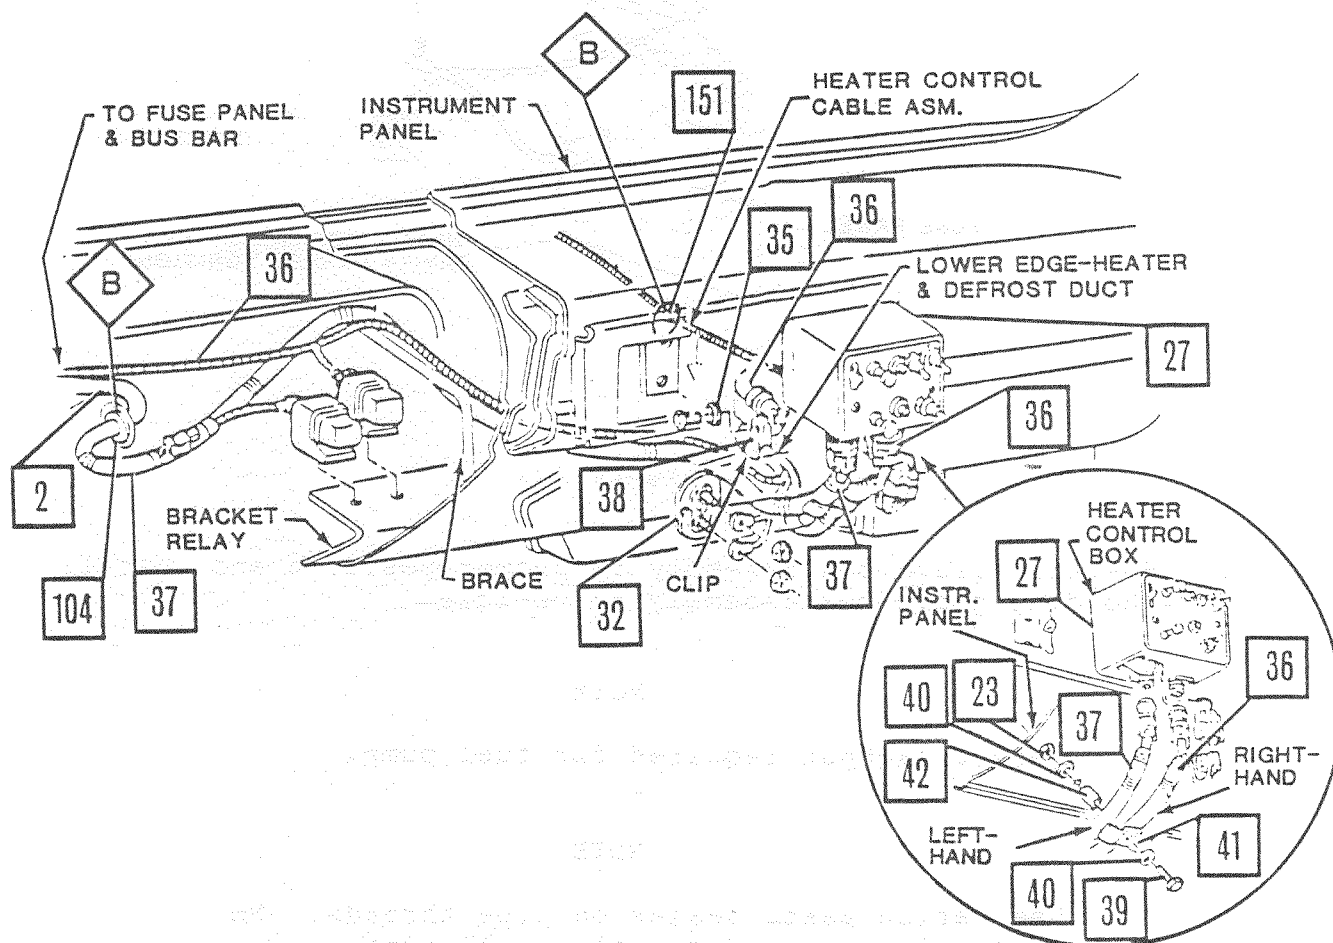

Figure 16.
86. Remove relays from engine air heater wiring harness assembly and engine coolant heater wiring harness assembly (Figure 16.).
88. From under hood, route engine coolant heater wiring harness assembly through hole in firewall (Figure 16.).
89. Install relays on wire harnesses (Figure 16.).
91. Route engine coolant heater wiring harness assembly under dash to control box and connect to heater control box (Figure 16.).
92. Connect wires for shut-off switch assembly on engine air heater wiring harness assembly to connections on temperature safety switch (Figure 16.).
93. Clip two relays on wire harness into holes in relay bracket (Figure 16.).
94. Drill 9/32 inch hole at bottom of dashboard (2 inches up from bottom), below heater control box and install nut, bolt, spacer, washers and clip to secure wire harnesses to dashboard (Figure 16.). Tighten bolt to 75-95 lb.-in. (8.5-11.0 Nm).
95. Install clip and washer on bottom of heater/defroster assembly at floor under existing bolt, and install engine air heater wiring harness assembly into clip (Figure 16.).